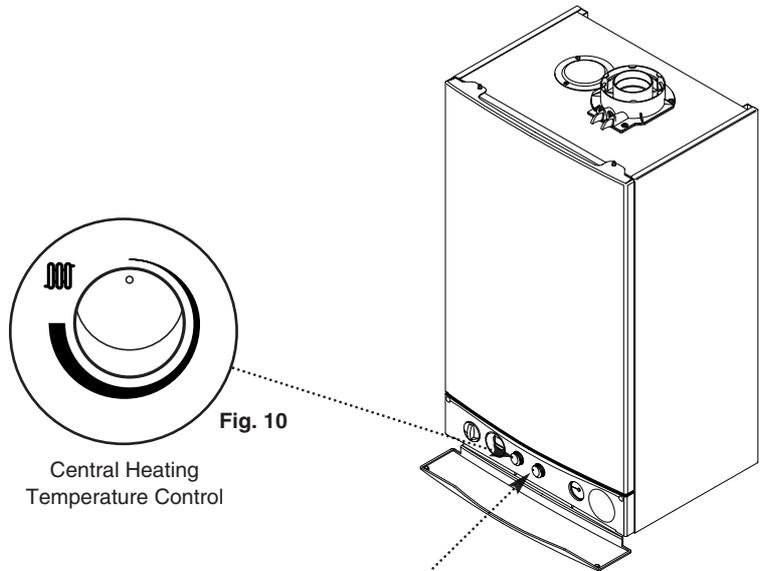

Fig. 10
2. Turn the control knob clockwise to increase the temperature (Fig. 10). As the control knob is turned the selected temperature is displayed for approximately 4 seconds. The display then reverts to the current boiler output temperature.